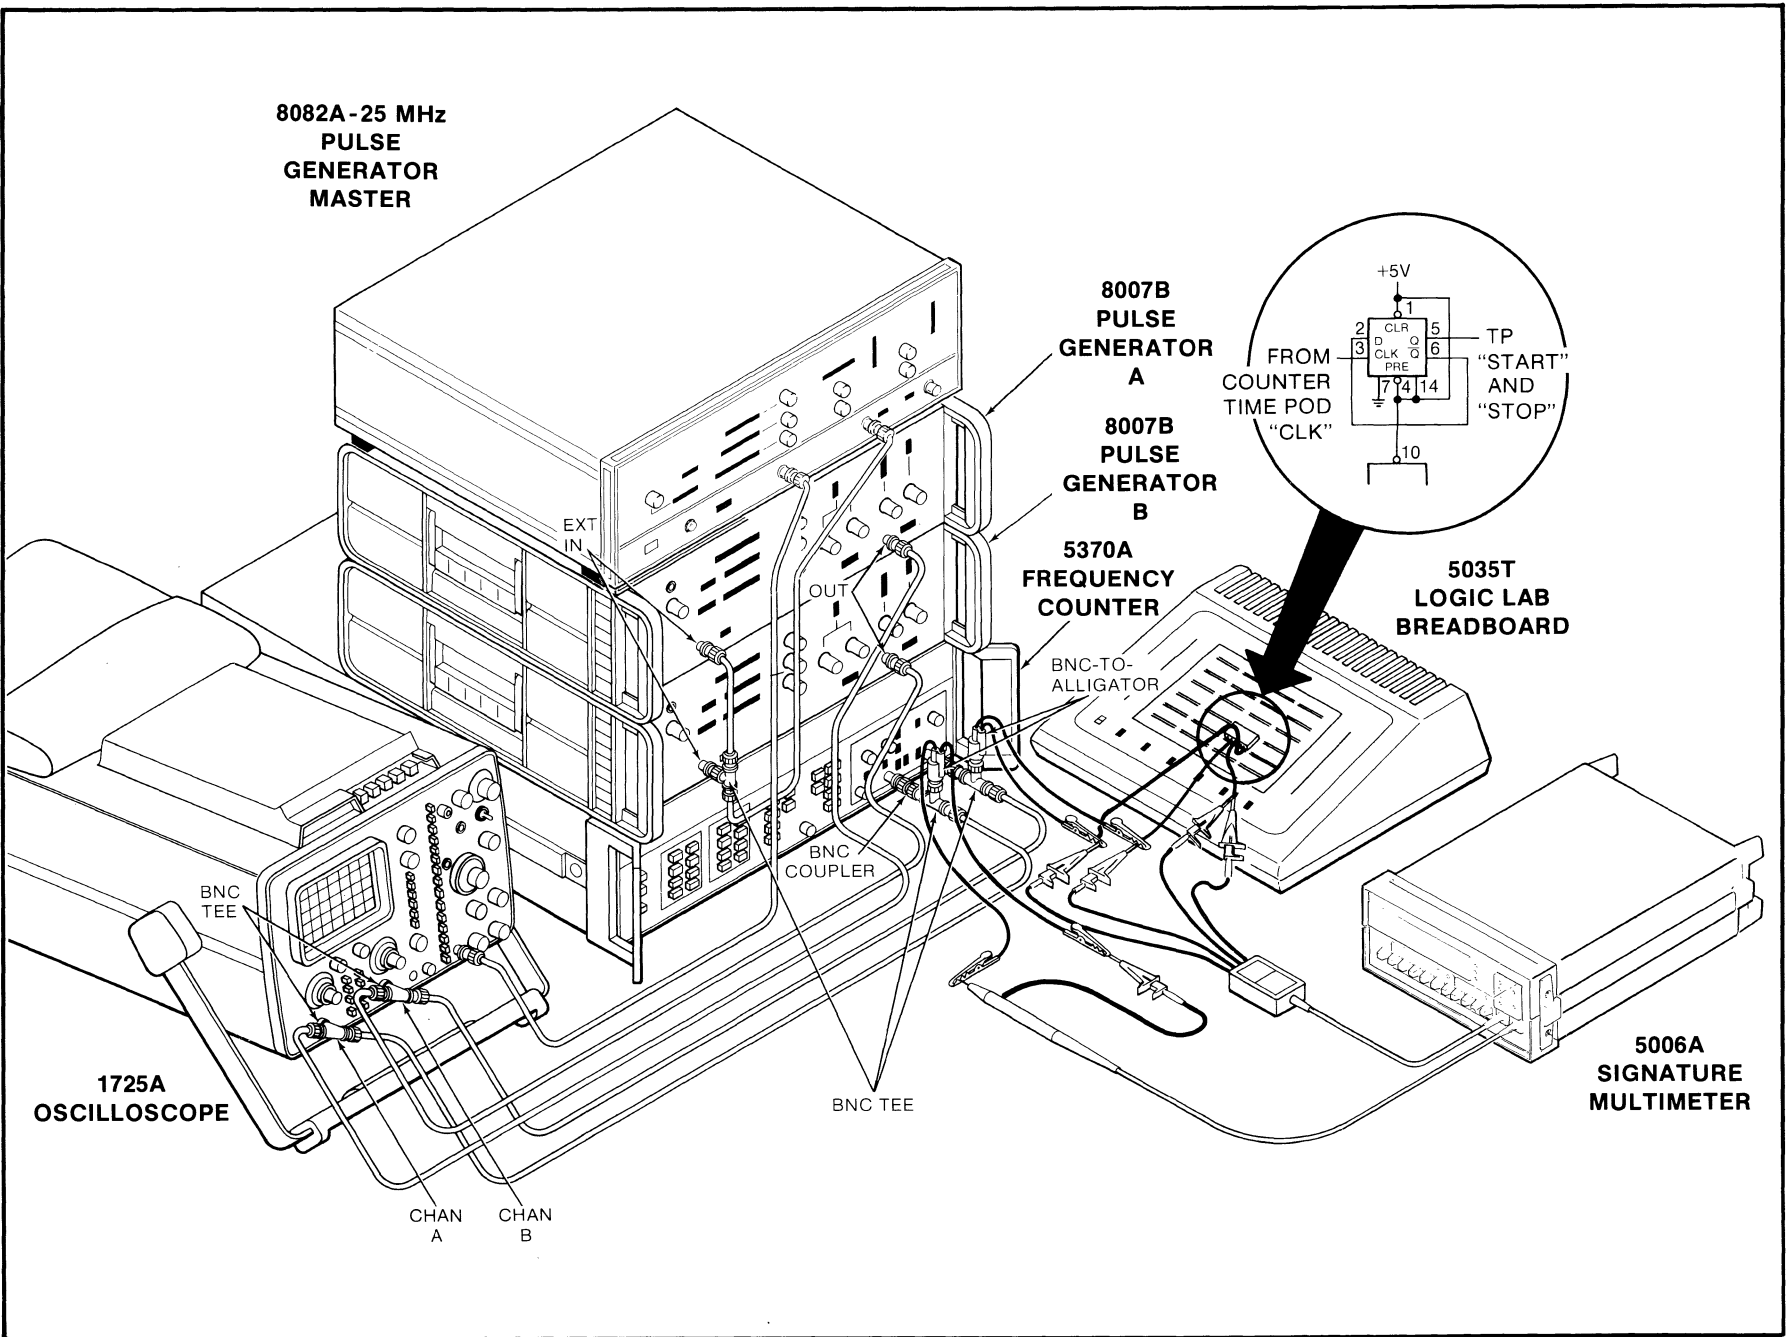
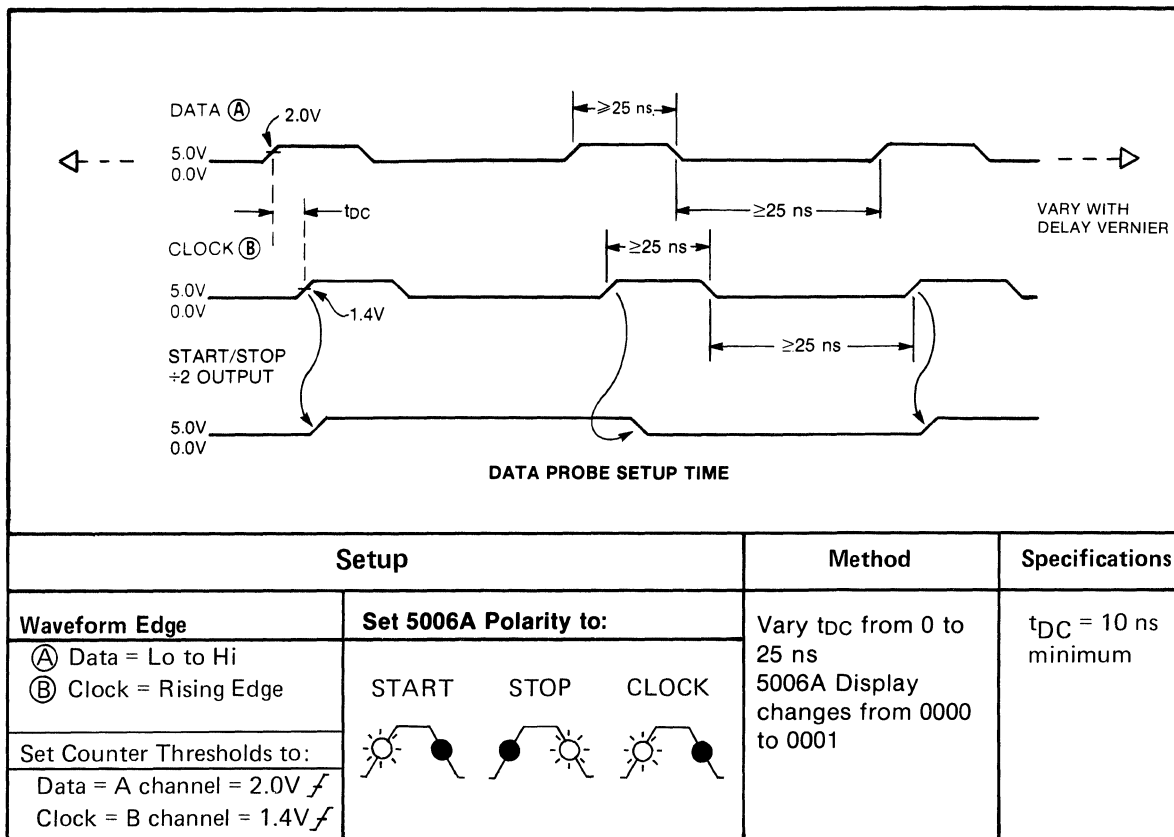
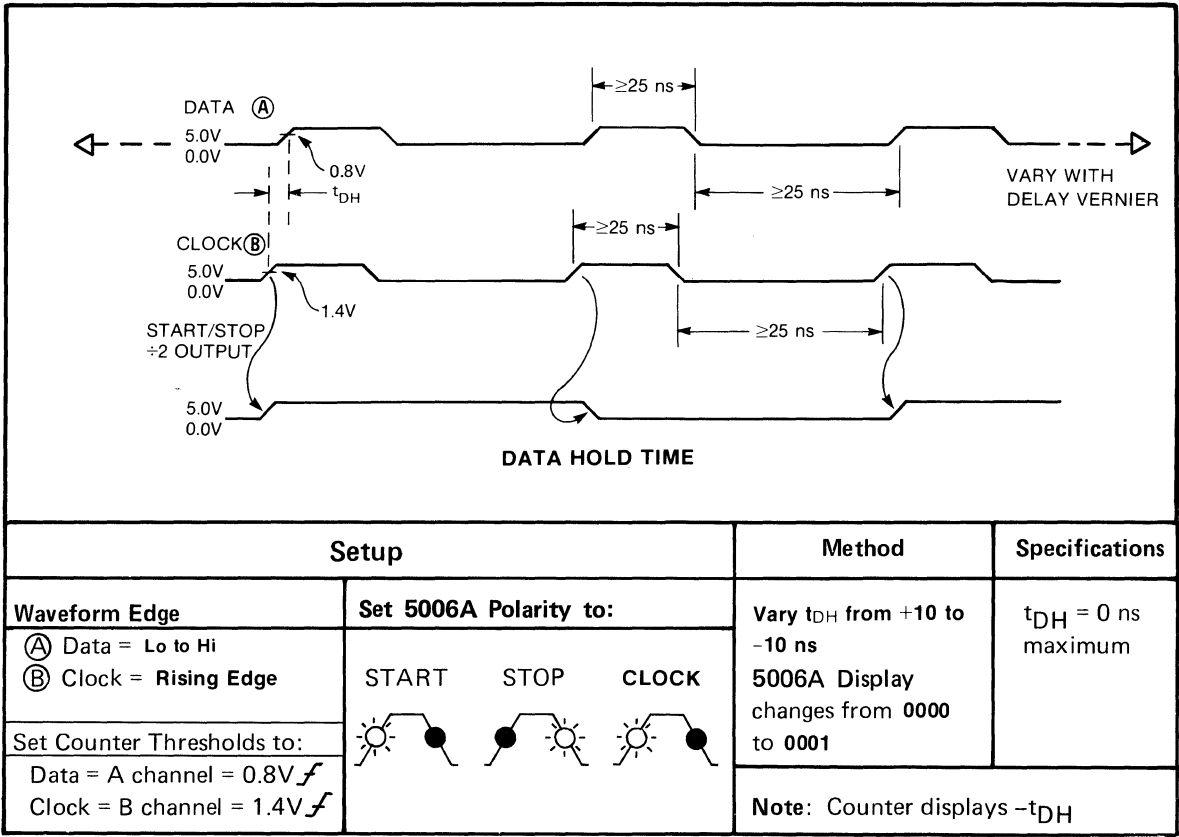

Figure 4-3. Data Probe Test Setup
Figure 4-4. Data Probe Setup Time – Test 1
Figure 4-8. Data Hold Time – Test 1
- Configure the equipment as shown in *Figure 4-3*.
g. Using the delay and pulse width verniers of the two pulse generators (A and B), adjust the controls to produce the waveforms shown in *Figure 4-4*.
j. The four data hold (t_{DH}) tests are analogous, except the 5370A displays $-t_{DH}$. That is, when the counter displays -5 ns, record the absolute value " $t_{DH} = 5$ ns". Perform all four t_{DH} tests, as shown in *Figures 4-8* through *4-11*. Verify that the t_{DH} specification of "0 ns max" is met. Record the results on the Performance Test Record.
The following eight tests (Data Probe Setup Time, *Figures 4-4* through *4-7* and Data Probe Hold Time, *Figures 4-8* through *4-11*) all utilize the equipment setup shown in *Figure 4-3*. Each test, however, requires minor changes in control settings or procedure (e.g. change counter slope control from \nearrow to \searrow .) As an aid to the technician, information shown in boldface type in *Figures 4-4* through *4-11*, highlight (only) the information which has changed from the previous test figure.